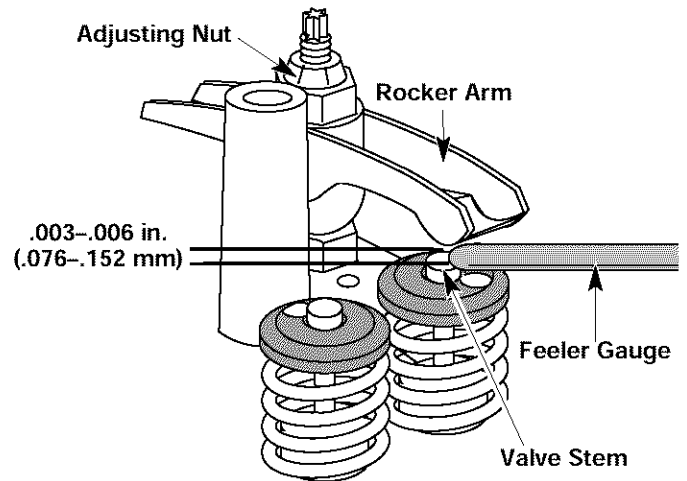

Fig. 46
- Turn the adjusting nut using a 5/16 inch (8 mm) wrench or nut driver (Fig. 46).